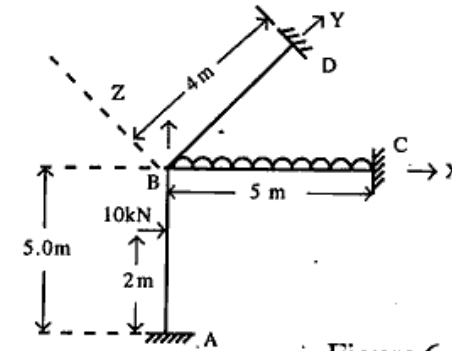

Figure 6
6. Analyse the space frame shown in figure 6 by the displacement method. EI is the same for all the members and $GK = 0.6 EI$.